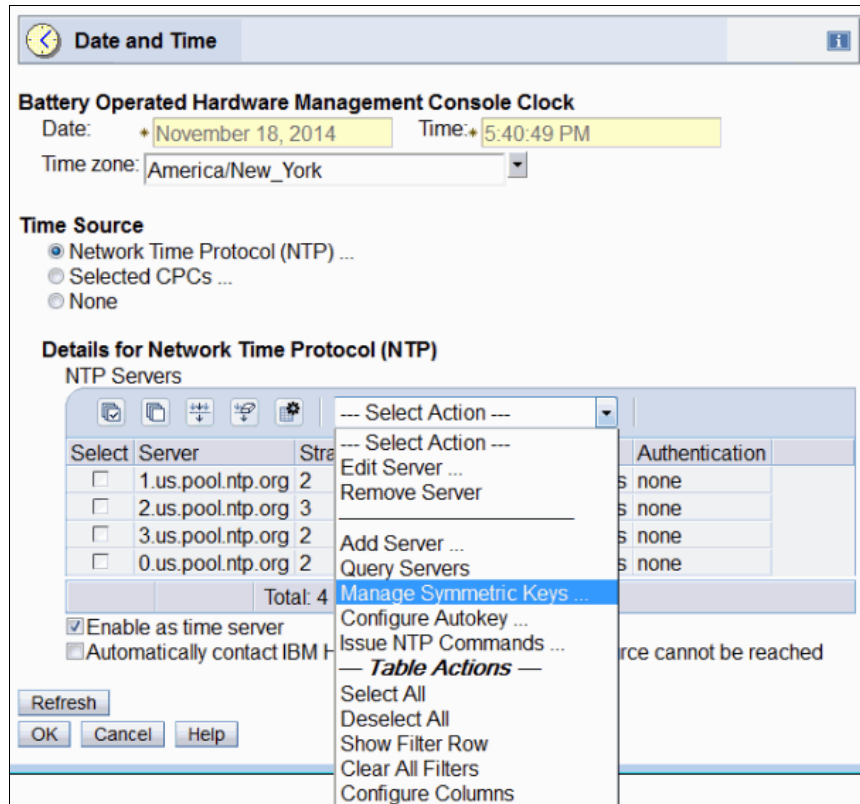

Figure 9-12 HMC: Customize Console Date and Time Manage Symmetric keys
2. Select **Manage Symmetric keys** from the Select Action list in Details for Network Time Protocol (NTP), as shown in Figure 9-12.